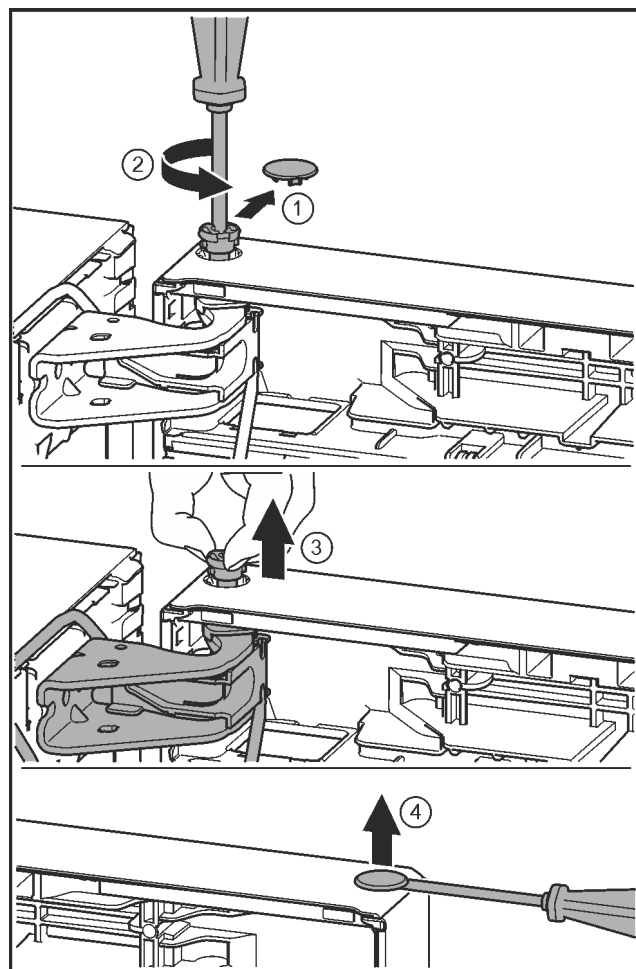

Fig. 21
- Carefully remove the protective cover. Fig. 21 (1)
- Undo the bolt a little with a T15 screwdriver. Fig. 21 (2)
- Hold the door and remove the bolts with your fingers. Fig. 21 (3)
- Carefully lift the plugs out of the door bearing bush with a slotted screwdriver and remove. Fig. 21 (4)